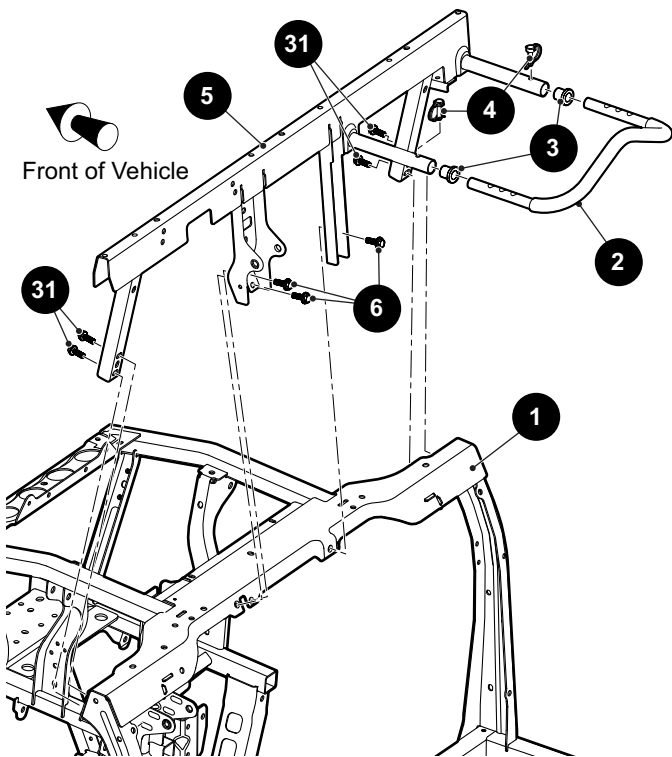

Fig. 2 Dash Support and Hand Hold
1. Release and remove the pins (4) that secure the handhold (2) into the dash support. (See Fig. 2)
3. Installation is the reverse order of removal. Make sure that the bushings (3) are in place before installation.